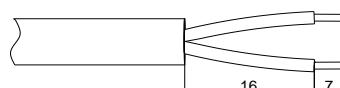

FIG 4-3 Strip Signal Cable
- Step 1: Prepare the signal cable by removing the signal cable's jacket about 23mm, and then strip the wire insulation layer about 7mm, as per FIG.4-3.